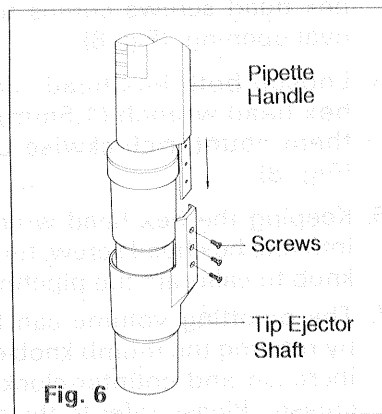

Fig. 6
1. To disconnect the tip ejector shaft, remove the three (3) stainless steel screws by turning counter-clockwise. Gently pull the tip ejector shaft off the end of the pipette. Do not twist the tip ejector shaft during this procedure. (Fig. 6)